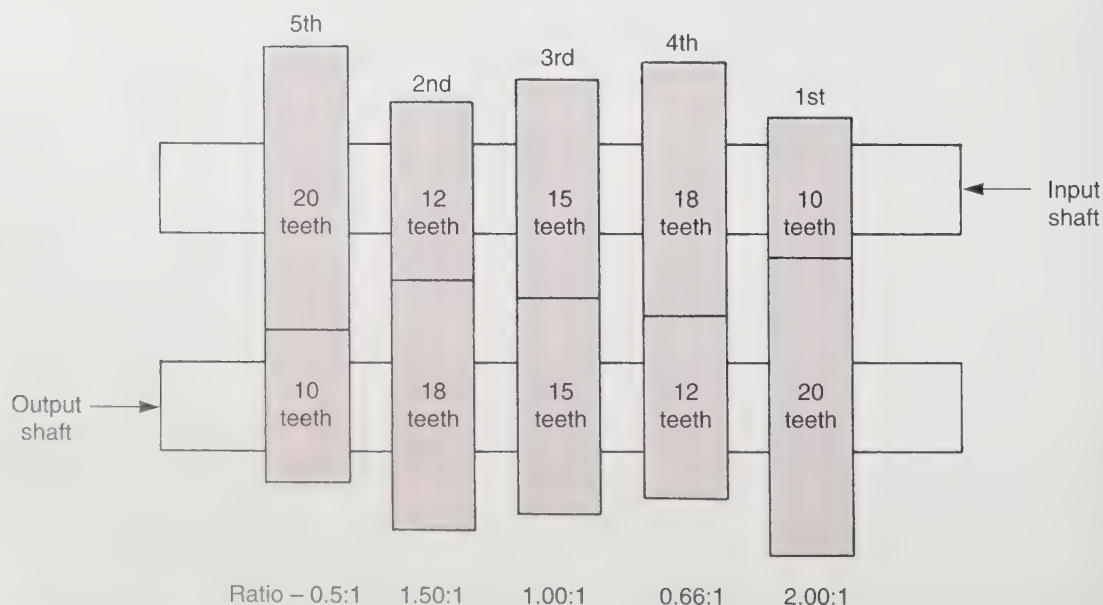

Figure 13-22. The smaller gear (1st gear) on the input shaft has the highest ratio (2:1) while the largest gear (5th gear) has the lowest ratio (0.5:1).
- The larger the gear (more teeth) on the input shaft, the lower the gear ratio. The largest gear on the input shaft is high gear, **Figure 13-22**.